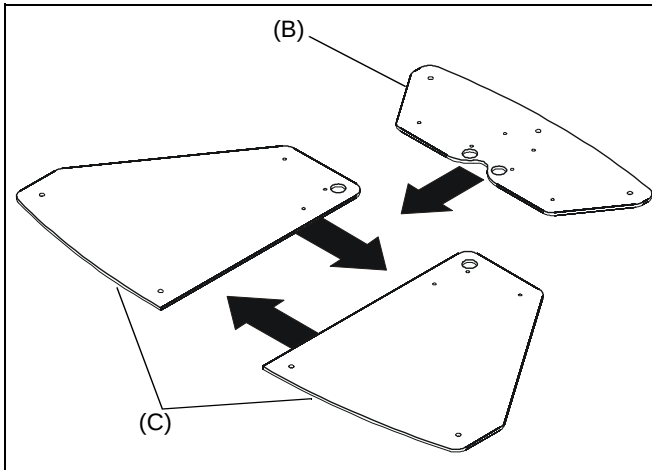

Figure 4
5. Gather stand base pieces B and C (2) as shown in Figure 4 and push them together until the edges meet.